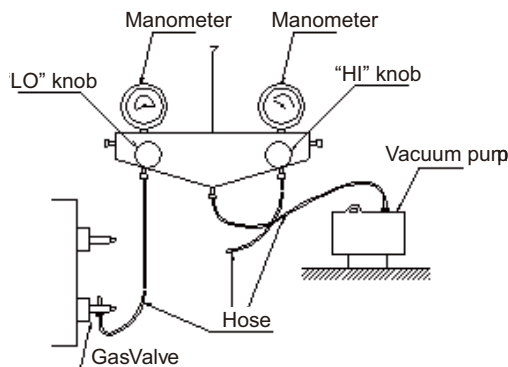

Fig.8
3) As shown in the following figure (Fig.8), expel the gas inside the indoor unit and refrigerant pipe out by the vacuum pump. (2 purposes of outdoor unit's main valve: 1. vacuum pumping 2. Control the on /off of outdoor unit refrigerant)